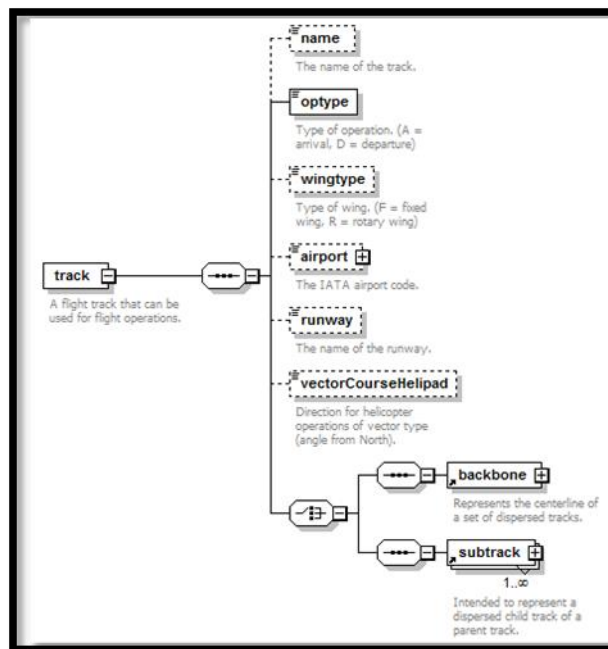

Figure 64 - xml element track
15. AsifXml/trackOpSet/track (Figure 64):